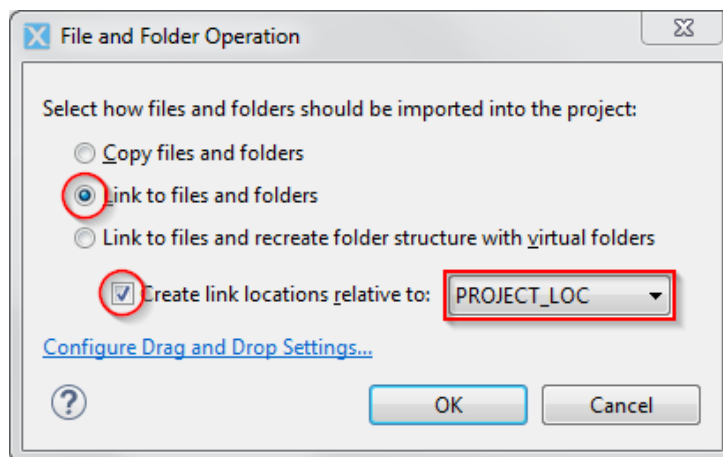

Figure 13: Creating a link to a re-usable module
- A window pops up. Ensure that *Link to files and folders* and *Create link locations relative to: PROJECT_LOC* are selected – see Figure 13.